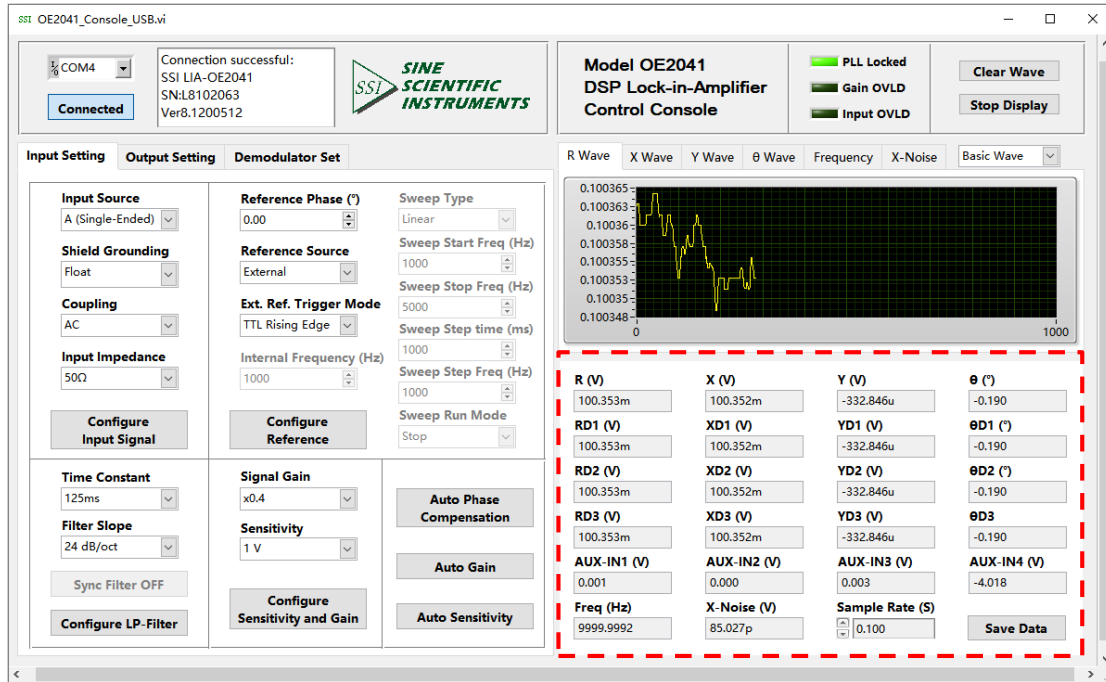

Fig.75 The Configuration Area of Data Storage
1. When the software is executing, click the button “Save Data” in the red box in Fig.75. After clicking this button and it displays “Saving...”. The software is saving the current collected data.